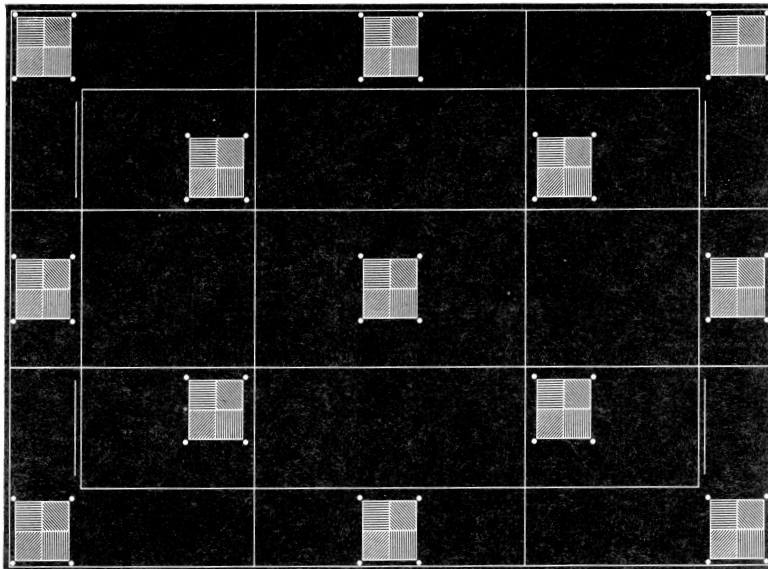

Figure 4-5. 1349A/D Focus and Resolution Test Pattern
- b. Short A2J6-1 to A2J6-2 and display the focus and resolution test pattern (see figure 4-5).